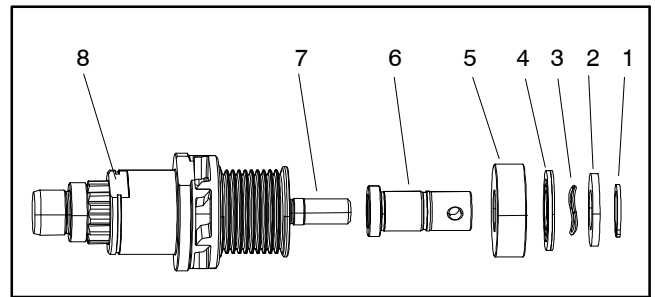

Figure 41
1. Support flex coupler (item 2) to prevent it from being damaged during spring pin removal. Push spring pin from flex coupler and bearing collar (item 23). Slide coupler with hex shaft (item 3) from collar. Discard removed spring pin.
2. Press ball bearing (item 28) from end of reel clutch shaft. Discard removed bearing.
3. Carefully remove retaining ring (item 13) that secures reel brake disc (item 14) to reel drive hub (item 18). Take care to not damage brake disc friction material when removing retaining ring.
4. Remove reel brake disc (item 14) from reel drive hub noting orientation of disc for assembly purposes. Friction material side of disc needs to be positioned toward the reel brake ring (item 11) which is pressed into the transmission housing.
5. Slide reel clutch hub (item 17) and reel clutch fork (item 16) assembly from reel drive hub (item 18). Note correct orientation of indicator mark on fork for assembly purposes. If necessary, remove pivot pins (item 15) and separate fork from hub.
6. Use modified socket (see Special Tools in this chapter) to remove bearing collar assembly from clutch shaft (Fig. 41).
4. Use modified socket (see Special Tools in this chapter) to install bearing collar assembly onto clutch shaft (Fig. 41).